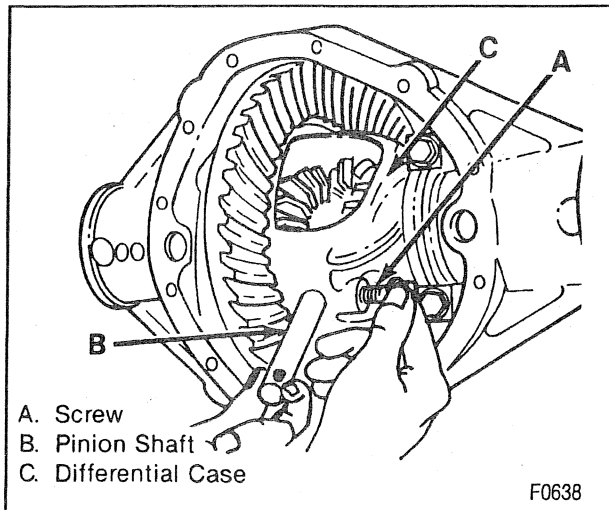

Figure 7—Removing/Installing the Pinion Shaft
- A. Keep the pinion shaft partially withdrawn (figure 7).